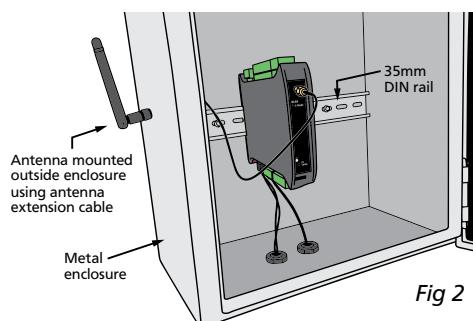

Fig 2
**B - Metal Enclosure (Fig 2)**
- A** **Installing the unit in an earthed Metal Enclosure** (as in Section 3.2, Fig 2). This is particularly useful if the control box is mounted close to large power switching devices like contactors. Every switching cycle there is a possibility of generating a large amount of near field radiated noise. The **Metal Enclosure**, acting as a faraday cage, will shunt this radiation to ground and away from the unit.